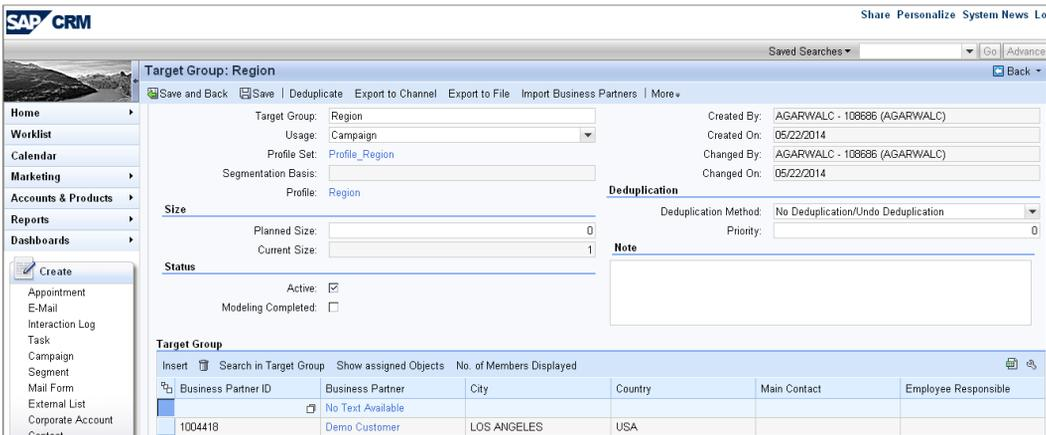

Figure 5.56 Business Partner Assigned to the Target Group
15. The business partner that was assigned with the marketing attribute Region CA is now shown in the **TARGET GROUP** field, as shown in Figure 5.56.